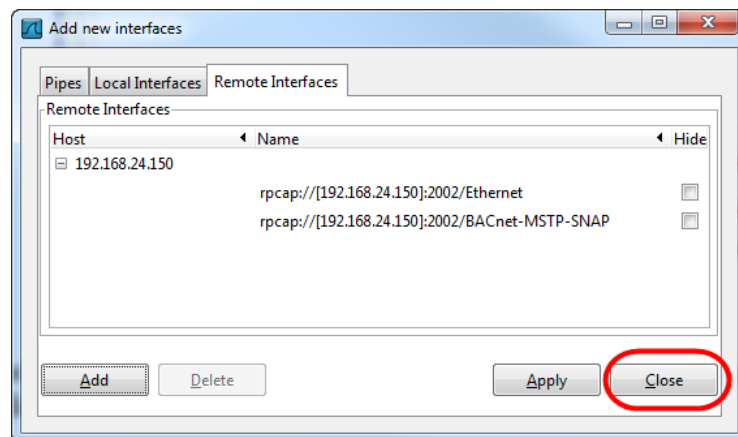

Figure 65: Added new interface to Wireshark.
7. If the connection to the device was established successfully, the **Remote Interfaces** list will be updated with information about all capture ports available on the device as shown in Figure 65.